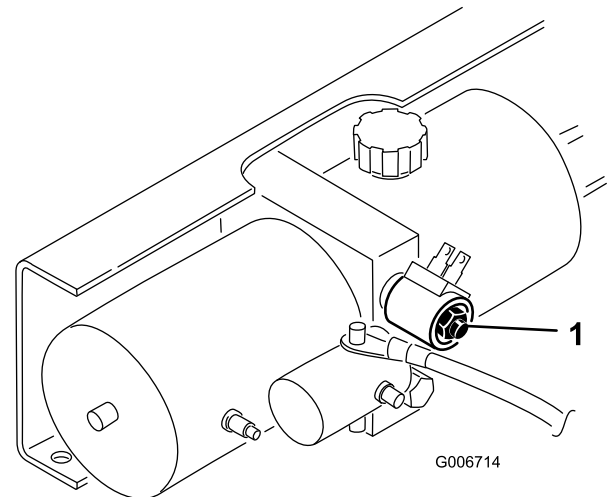

Figure 29
2. Push in red knob on solenoid valve (Figure 29) and rotate 180 degrees counter-clockwise to activate emergency lowering valve.